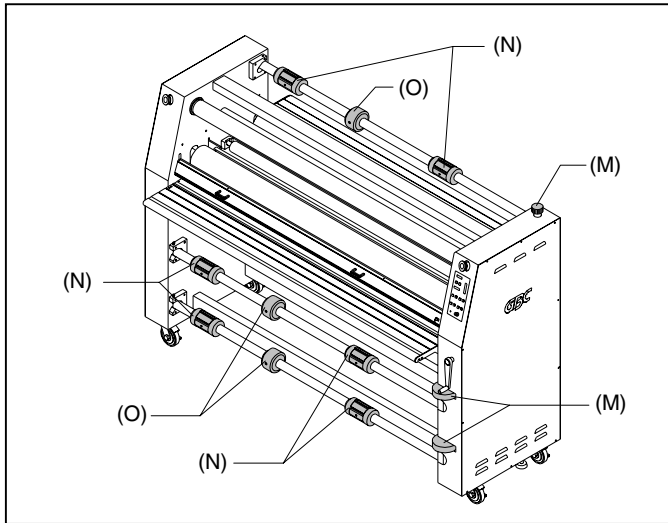

Fig. 14
M. FILM SHAFT BRAKE: (Figure 14) Used to apply resistance to the film shaft. One for the upper unwind and one for each of the lower unwinds.
N. CORE ADAPTORS: (Figure 14) Hold and lock the rolls of film on the shafts to prevent side to side shifting.
O. CENTER CORE SUPPORT: (Figure 14) Supports the center of the film cores when placed onto the unwind shafts.